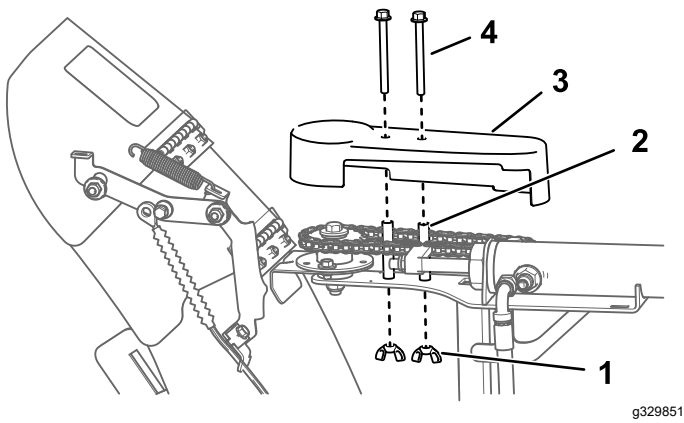

Figure 35
7. Install the cover as shown in Figure 35.